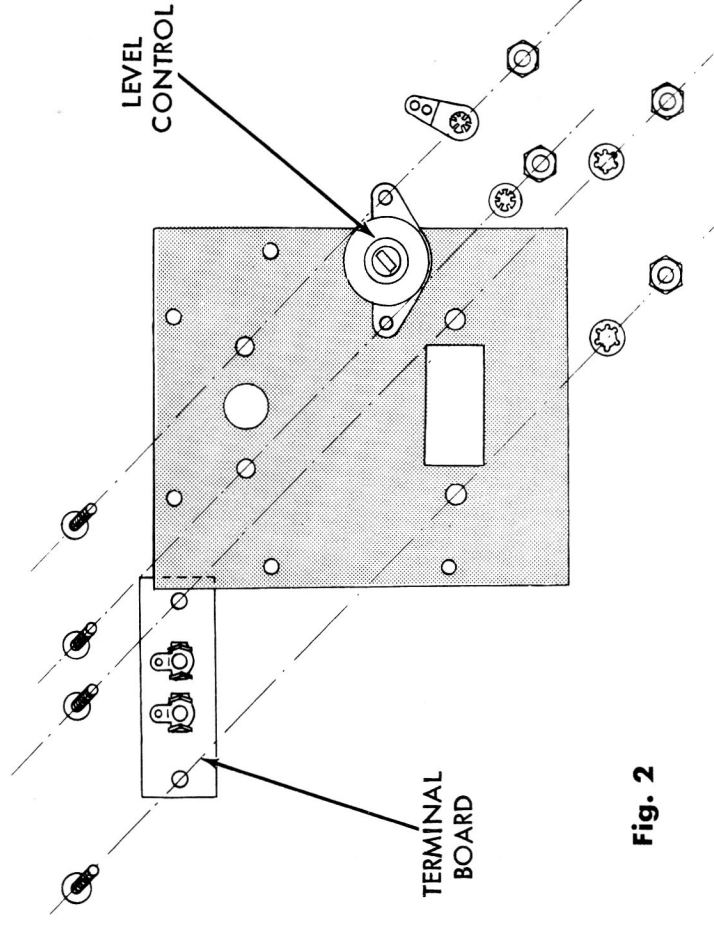

Fig. 2
4. () Fig. 2. Mount the tweeter level control on the rectangular plate, using one small lockwasher, one solder lug, and two small hex nuts and two small screws as shown. Do not attempt to insulate the mounting tabs on the control from the metal plate; the 2 watt rating of this control is contingent on its being mounted on a metal panel of certain minimum area to adequately conduct heat away from it.
5. () Fig. 2. Mount the terminal board on the metal plate, using two small lockwashers and hex nuts and screws.